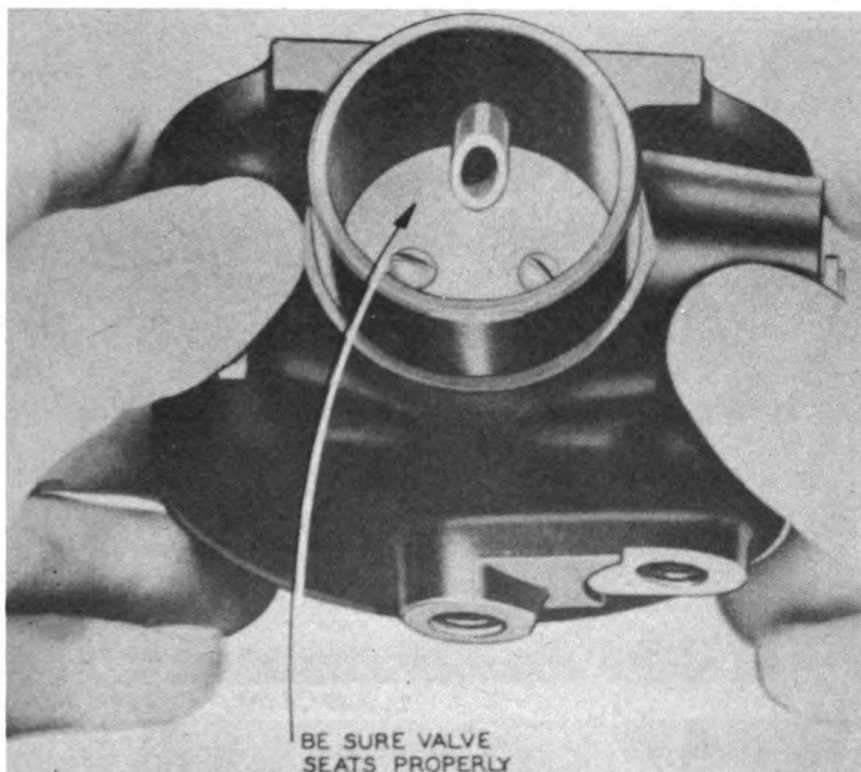

Fig. 98
4. Place choke shaft spacer washer on shaft. Insert choke shaft into body and assembly choke valve with screws and lockwashers, making certain that the valve fits around the entire edge when it is in closed position. Make certain that the choke shaft operates freely. Install choke lever on end of shaft in the position as previously marked. (Fig. 98).